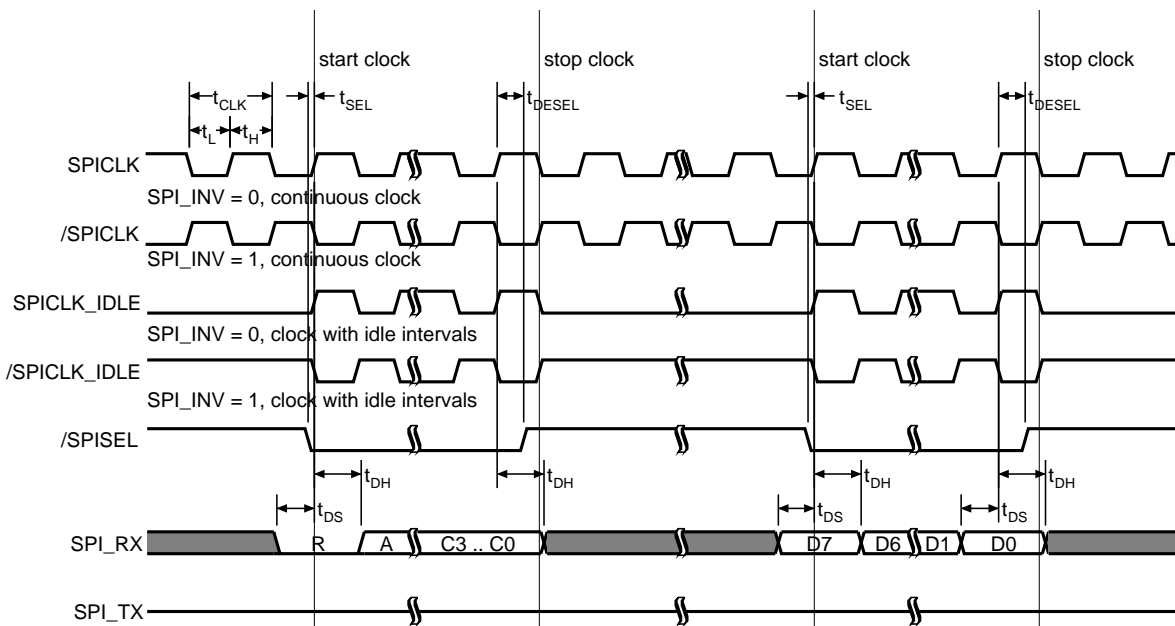
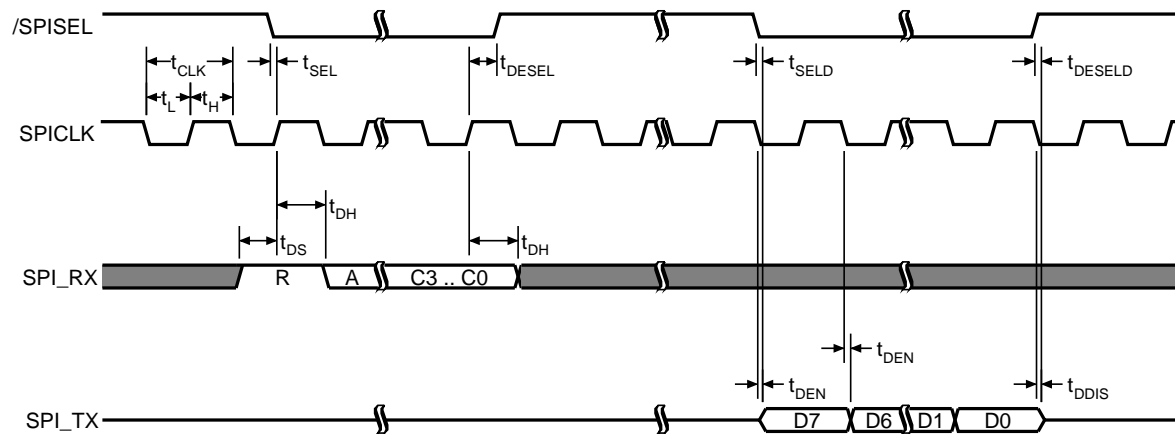

Figure 2.20: SPI timing diagram for data write transactions
Figure 2.21: SPI timing diagram for data read transactions (see Figure 2.20 for additional clock signals  $/SPICLK$ ,  $SPICLK\_IDLE$  and  $/SPICLK\_IDLE$ )
Figure 2.20 shows the timing diagram for data write transactions (data from master to slave). Four different variations of the SPI clock are shown. SPI clock can be inverted with SPI\_INV = '1'. Further, idle intervals are allowed during non-selected phases where /SPISEL = '1'. During idle intervals, SPI clock must be low for SPI\_INV = '0' and it must be high otherwise.
When the SPI access is splitted by the SPI master, the rising edge of /SPISEL is required to be  $t_{DESEL} \geq 2\text{ns}$  after the sampling time at the earliest. When clock idle intervals are used, it is necessary to have at least one clock edge after the last sample edge (marked with 'stop clock' in Figure 2.20). This is important to terminate the access internally.
The timing diagram for data read transactions (data from slave to master) is shown in Figure 2.21. The same different variations of the SPI clock which are shown in Figure 2.20 are valid for data read
Table 2.17: Symbols of write access in Figure 2.20
**Table 2.18:** Symbols of read access in Figure 2.21